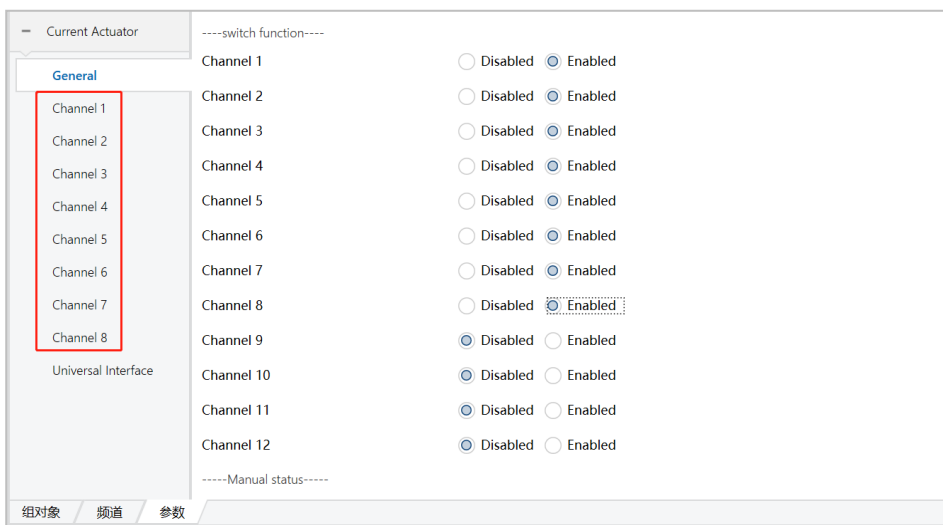

Figure 6.1.2
2) After the setting is completed, the interface is shown in Figure 6.1.2, and the eight options in the red box as shown appear.